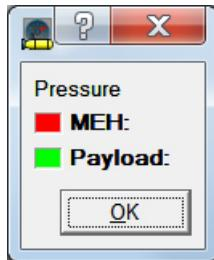

Figure 31: Example of an MEH Error displayed in an Expansion Window
3. The expanded view appears (Figure 31) allowing you to identify the affected component, in this case, the MEH.